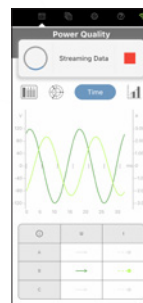

Figure 4
- Figure 4: Phase B: Displays voltage and current line cycles for line B on the same plot